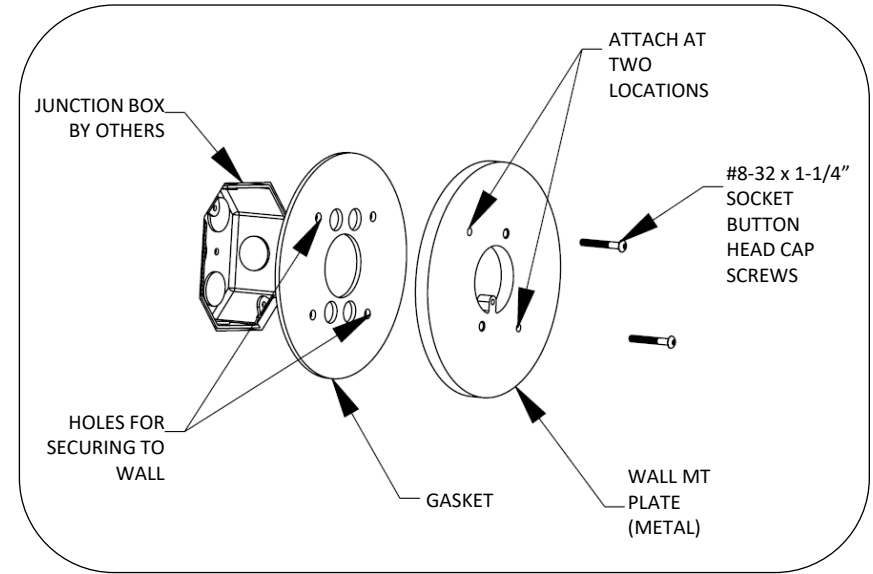

Fig. 1 – secure wall mt plate and gasket to junction box
1. Set wall mount gasket over installed junction box. Place wall mount plate over gasket, see Fig. 1. Attach to junction box using two 8-32 x 1-1/4" socket button head cap screws, included. Add silicone if necessary to seal gasket to wall.